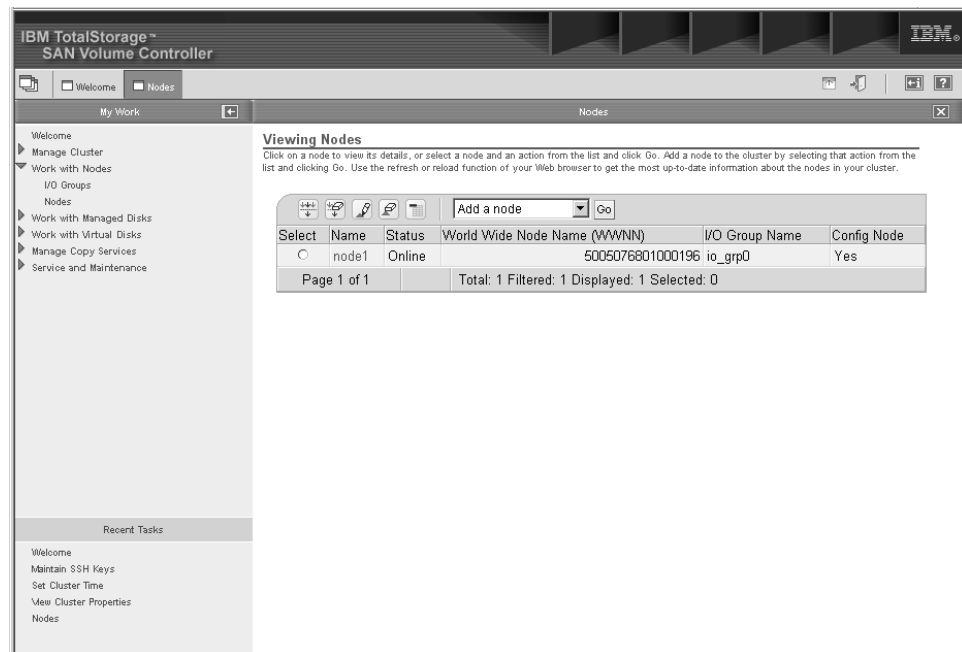

Figure 33. Nodes panel
2. Click **Nodes** from the portfolio. The Nodes panel is displayed. See Figure 33 on page 98 for more information.